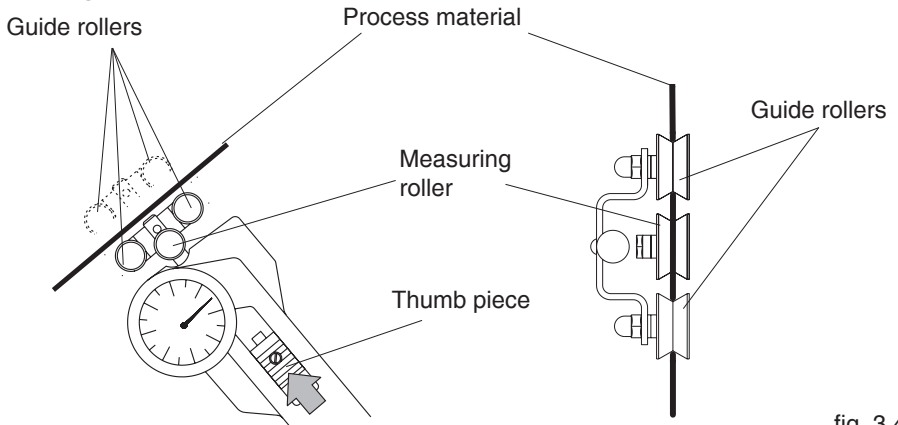

fig. 3.4
- Keeping the outer rollers extended, and catch the process material, so that it runs into the outer rollers (see fig. 3.4).
- Suspend a known weight that corresponds to the tension to be measured (pay attention to the correct unit of measure) from the Process material, vertically, as shown in fig. 3.4. (Always use a fresh portion of the material to be measured).